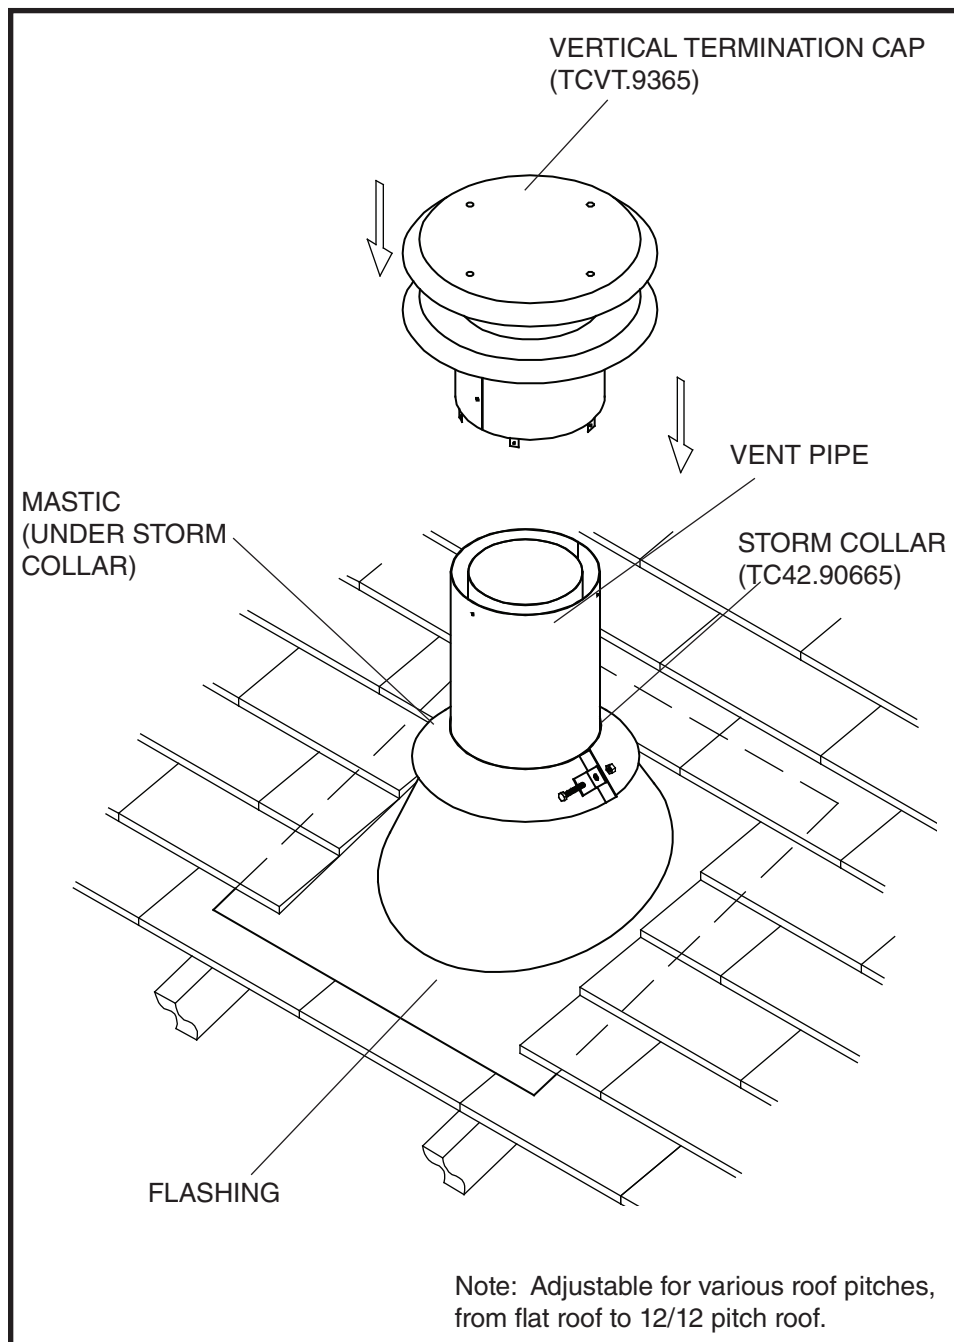

Figure 40: Roof terminal.
- Place the roof flashing over the vent pipe, secure and seal it to the roof using the methods and materials appropriate for the type of roof on the building. Shingle roof example shown in Figure 40.